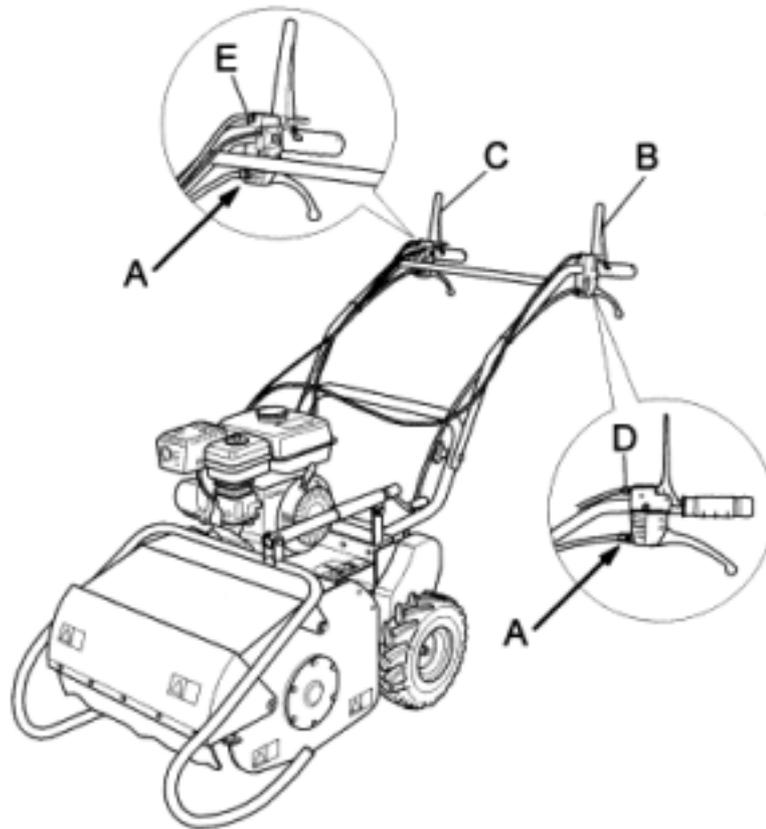
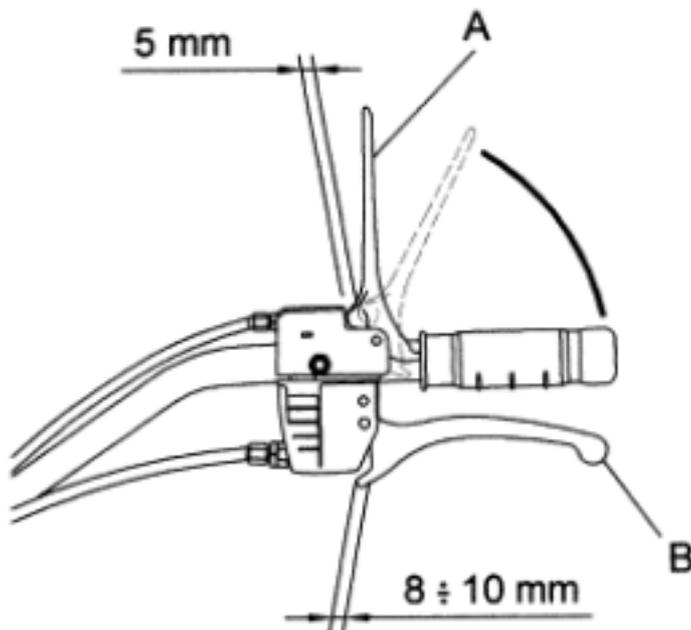

Fig. 4
Fig. 5
B1) RIGHT AND LEFT WHEEL RELEASE CABLES (FIG. 4 REF. A E FIG. 5 RIF. B)
For the machine to operate correctly there must be a play of 8-10 mm on the right and left wheel release lever (fig. 5, rif. B). If this is not the case, adjust the special screw (fig. 4, ref. A) by loosening or tightening it.
B2) FLAIL HOLDER ROTOR CONTROL CABLE (FIG. 4 REF. B)
For the machine to operate correctly there must be a play of 5-6mm (fig. 5, ref. A) on the flail lever. If this is not the case, adjust the special screw (fig. 4, ref. D) by loosening or tightening it.
This check can also be performed using the flail holder rotor control lever. In fact, if when lowered a certain resistance is felt immediately, remaining constant to the end of its stroke, it is caused by the fact that the brake cable does not have the necessary play for its operation. Figure 5, ref. A shows the optimum working condition. Hence the first part of the lever stroke for approximately 5 mm (broken line) presents a lower resistance compared to that of the second part (solid line).
B3) Forward control cable (Fig. 4 ref. C)
For the machine to operate correctly there must be a play of 5-6mm (fig. 5, rif. A) on the forward control lever of the machine (fig. 5, ref. A). If this is not the case, adjust the special screw (fig. 4, ref. E) by loosening or tightening it.
- Then repeat the same check, this time keeping the wheel release lever raised (fig. 5, ref. B). Now the pulley should be able to turn freely.
THE TWO BRAKES ARE CORRECTLY ADJUSTED WHEN THE FLAIL ROTOR LEVER (FIG. 4, REF. B) AND FORWARD CONTROL LEVER (FIG. 4, REF. C) HAVE 5 MM OF PLAY AS INDICATED UNDER THE SECTION “ADJUSTMENT OF THE CONTROL CABLES”. SHOULD THE SAID BRAKES FAIL TO PERFORM THEIR SAFETY FUNCTION AFTER CORRECT LEVER ADJUSTMENT, CHECK THE STATE OF WEAR OF THE BRAKE LINING AND REPLACE THE BRAKES IF NECESSARY.